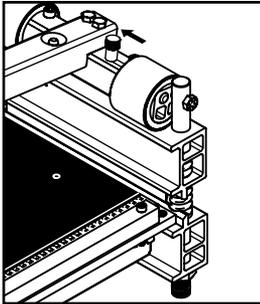

Figure 2 - Unlocked
**DISENGAGING THE SAFETY LOCK:** Grasp the leverage handle at the grip to control its motion. Loosen the safety lock's lock nut, then slide the safety lock all the way to the left to disengage (Figure 2). Tighten the safety lock's lock nut to hold it in the disengaged position. The leverage handle is spring loaded and will rise automatically. In operation, keep a hand on the grip of the leverage handle to keep it under control.